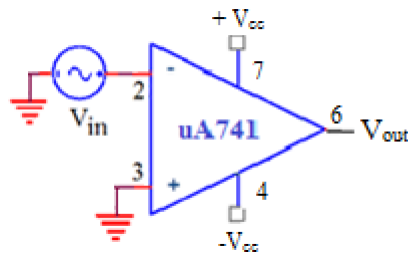

Fig. 6.1: Zero crossing detector (ZCD)
- [i] Rig up the circuit as shown in Fig. 6.1.